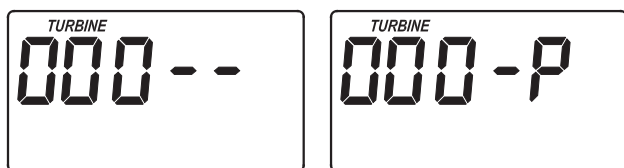

FIG. 33
1. Press and hold for 3 seconds the SELECT button, until one of the screens shown in Figure 33 is displayed. If the valve is in service, fill, solution draw / brining, backwash or fast rinse position (observe markings on the valve cam), the display should show "000 - -", meaning the position switch is open. When the valve is moving, the display should show "000 - P", meaning that the position switch is closed.
If a turbine has been installed in your filter's valve outlet port, the first 3 digits of the display in Figure 33 should count upward whenever water is flowing through the system.